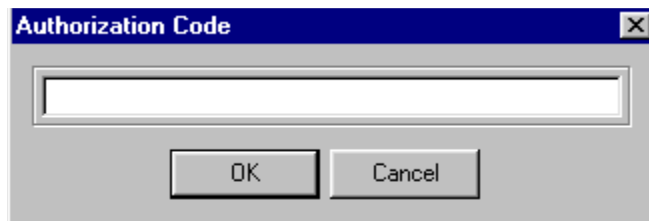

Figure 15: Authorization Code Dialog
6. Enter the authorization code and select *OK* when the Authorization Code dialog opens, see *Figure 15*.